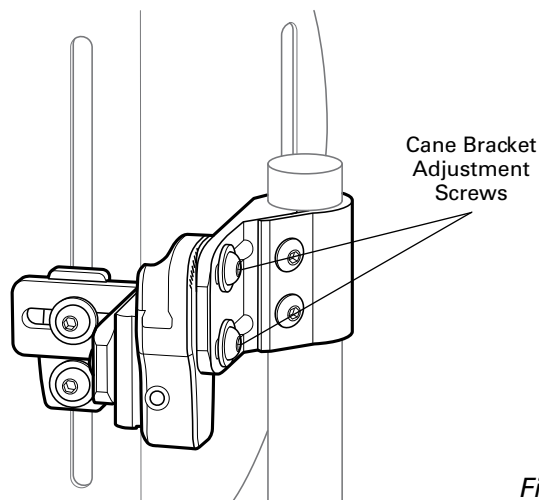

Fig. 7
3. Check the depth adjustment. Ensure that the depth adjustment is the same on the left and right Holsters. Loosen the top and bottom Cane Bracket Adjustment Screws a three-quarter ($\frac{3}{4}$) turn. While holding the back system at the appropriate depth, tighten the top and bottom adjustment screws. *Fig. 7*
4. Check the angle adjustment. Ensure that the angle adjustment is the same on the left and right Holsters. Loosen the top Cane Bracket Adjustment Screws a three-quarter ($\frac{3}{4}$) turn. While holding the back system at the appropriate angle, tighten the top adjustment screw. *Fig. 7*